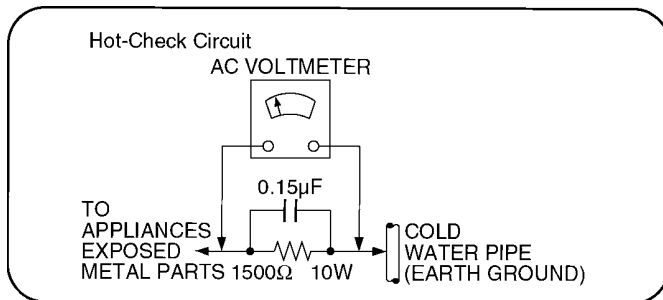

Figure 1
2.1.2. LEAKAGE CURRENT HOT CHECK (See Figure 1.)
2. Connect a 1.5kΩ, 10 watts resistor, in parallel with a 0.15µF capacitors, between each exposed metallic part on the set and a good earth ground such as a water pipe, as shown in Figure 1.